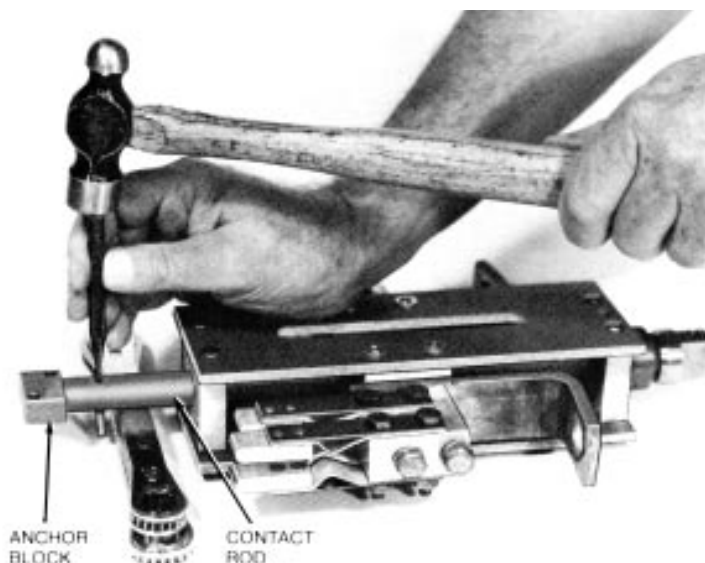

Figure 18.
- C. To remove the contact rod from the housing drive out the roll pin and pull off the movable contacts anchor block. (Figure 18)